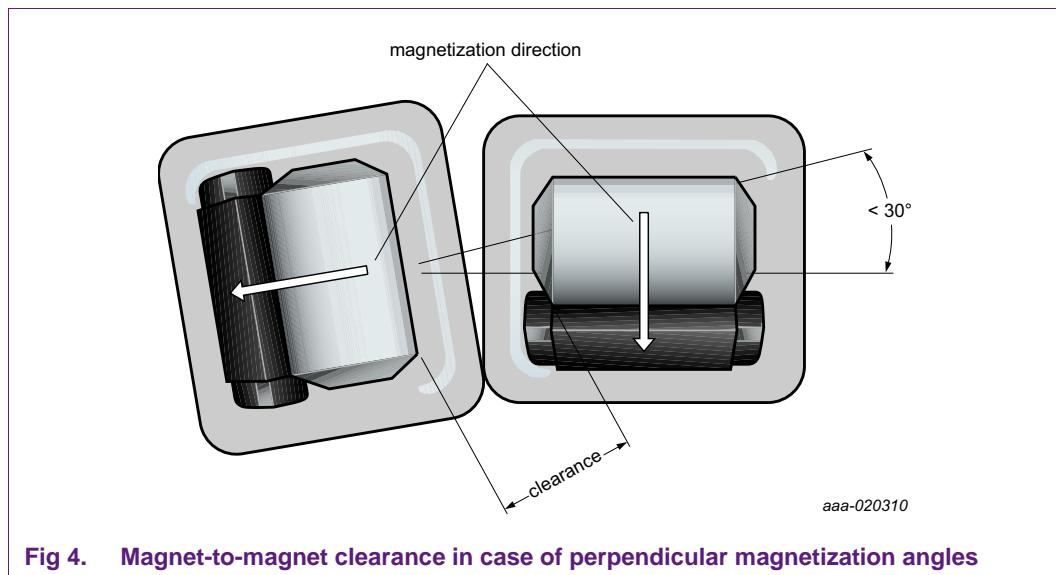

Fig 4. Magnet-to-magnet clearance in case of perpendicular magnetization angles
- Minimum clearance of 2 mm in case the magnetization of the neighboring devices are perpendicular within ±30° to each other; see Figure 4